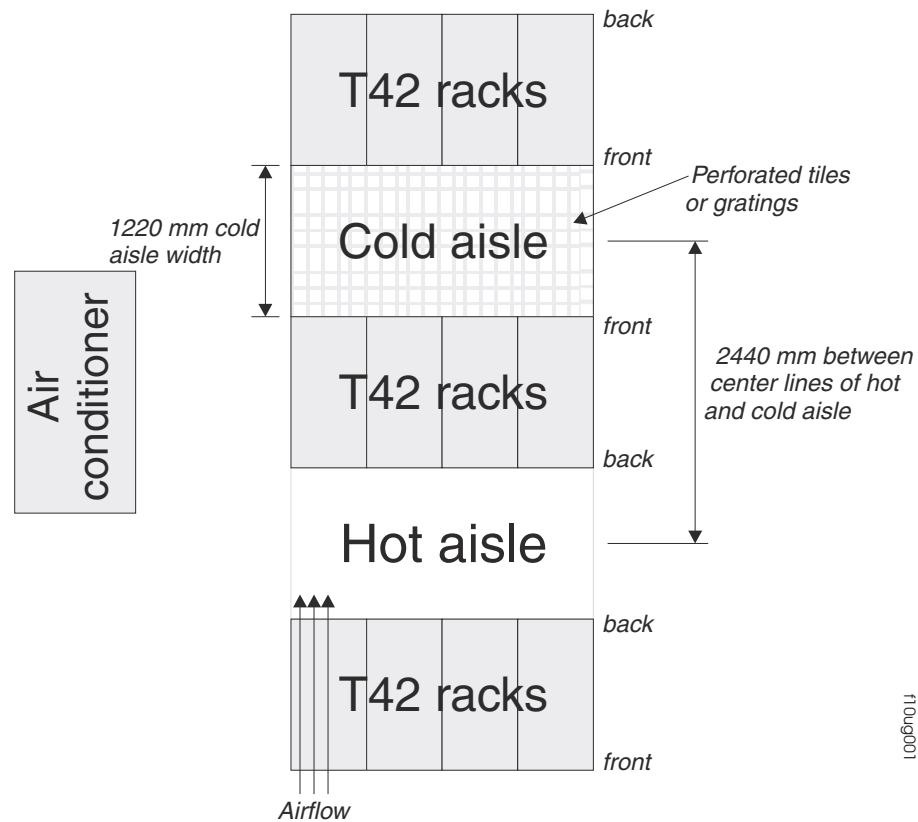

Figure 12. Example of cold aisle/hot aisle rack cabinet configuration
- Air enters at the front of the rack cabinet and leaves at the back. To prevent the air that is leaving the rack cabinet from entering the intake of another piece of equipment, you must position the rack cabinets in alternate rows, back-to-back and front-to-front. This arrangement is known as *cold aisle/hot aisle* and is shown in Figure 12 on page 31.